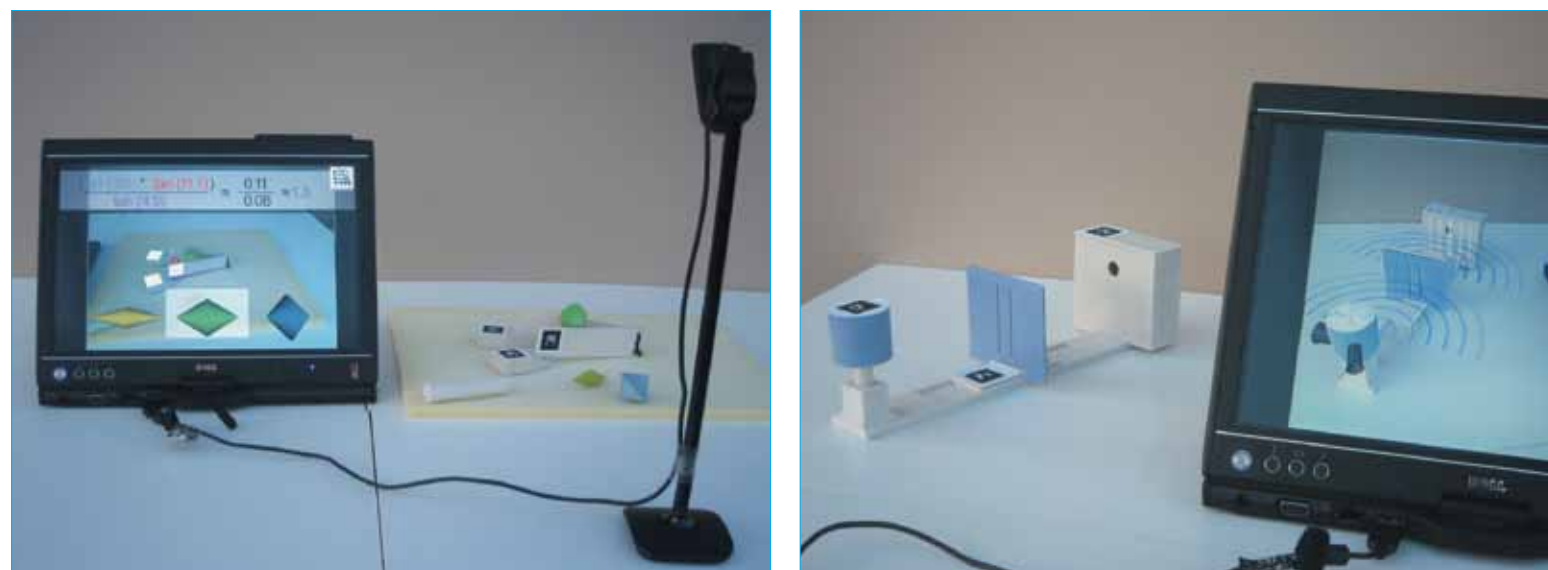

Figure 2 The AR adds elements to the miniatures
The miniatures are set up one at a time in the webcam's field of view. The webcam creates an image on the laptop screen. Software adds an overlay to the image. As the miniature is manipulated, the overlay changes in response to the movement. The overlay depicts an aspect of the scientific phenomenon under investigation, for example trigonometric information or waves (Figure 2). This process of adding unseen elements to the image on the screen is the augmented reality (AR).
Each miniature has two or more AR markers (the black and white shapes in Figures 2 & 4) that are recognised by the software through the webcam. The markers disappear from the screen when the AR software detects them (see Figure 2) and in some cases are replaced by images. The augmented elements are computed according to the position of markers relative to each other, and to their distance from the webcam. The software responds to the AR marker and not the object itself, so if the marker is not in the correct position on the miniature the AR will not work correctly.
Users can experiment to find the best orientation. In general locating the camera above the miniature, pointing down at an angle, works well (see Figures 2 & 5).